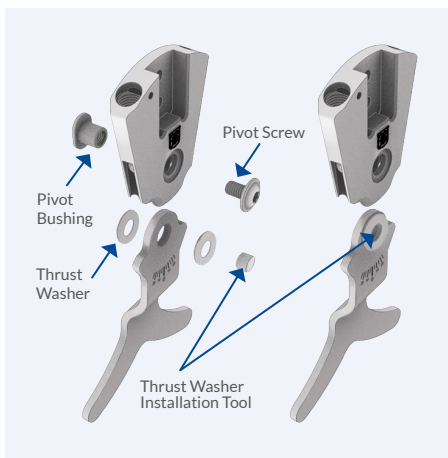

Figure 2
b. Install the MILINE stirrup with the selected thrust washers (included) to adjust the mediolateral play of the component to the desired stability. Refer to Table 2 for thrust washers included by component size. After selecting the desired washer thickness, use the thrust washer installation tool to hold the thrust washers in alignment with the stirrup as it is pushed into the component body (Figure 2). When the thrust washer installation tool is aligned with the pivot hole, install the pivot bushing, pushing the thrust washer installation tool out of the pivot hole. Apply a small drop of thread locking adhesive to the pivot screw and tighten. Use a torque wrench to torque the pivot screw to the value shown in Table 1.